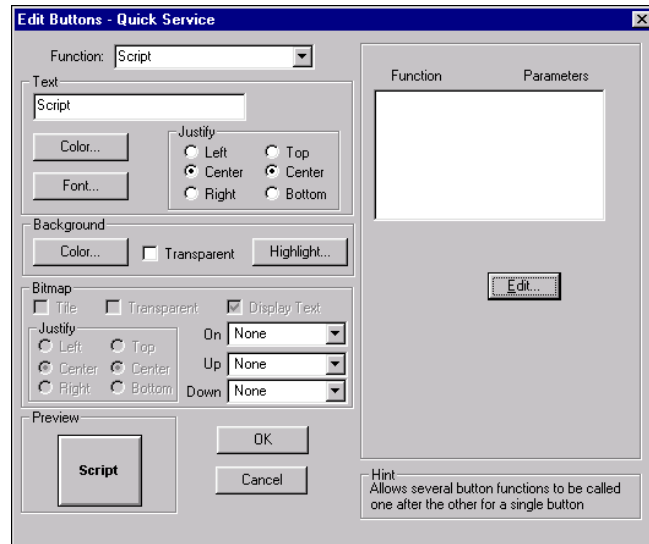

Figure 5-103 Script Button Function
1. Select **Script** from the **Function** drop-down list. Additional options display, as shown in Figure 5-103: